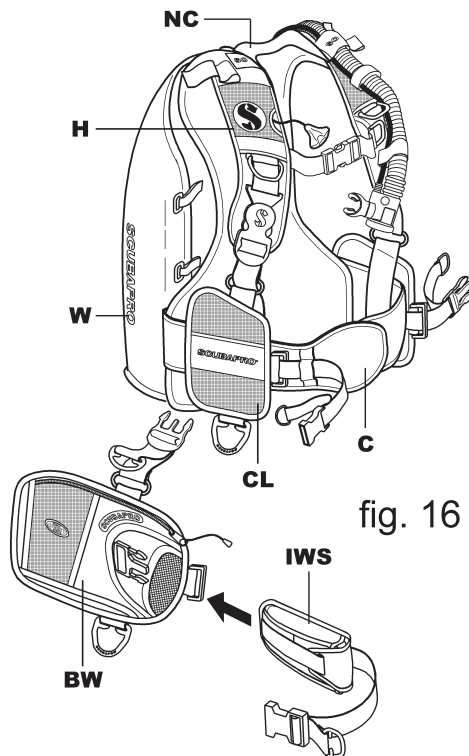

fig. 16
This is a back floatation BC that consists of a single bag WING (fig.16 – W), an independent harness (fig.16 – H) and an adjustable cummerbund (fig. 16 – C) system.
The system is modular so, to the GLIDE TEK Basic model it is possible to apply the optional weight pockets both on the back (paragraph 4, fig. 4 - CW) and, on the cummerbund, by using the integrated weight system pockets (paragraph 4 – fig. 5 & fig. 16 – IWS)).
- The GLIDE TEK Basic model (P/N 21.320.X00) has only two loops (fig.16 – CL) to connect the shoulder lobes to the cummerbund. The Pro model (P/N 21.324.X00) has pockets (fig. 16 – BW) with standard integrated weight system (fig.16 – IWS) : both pockets will come in 2 sizes.